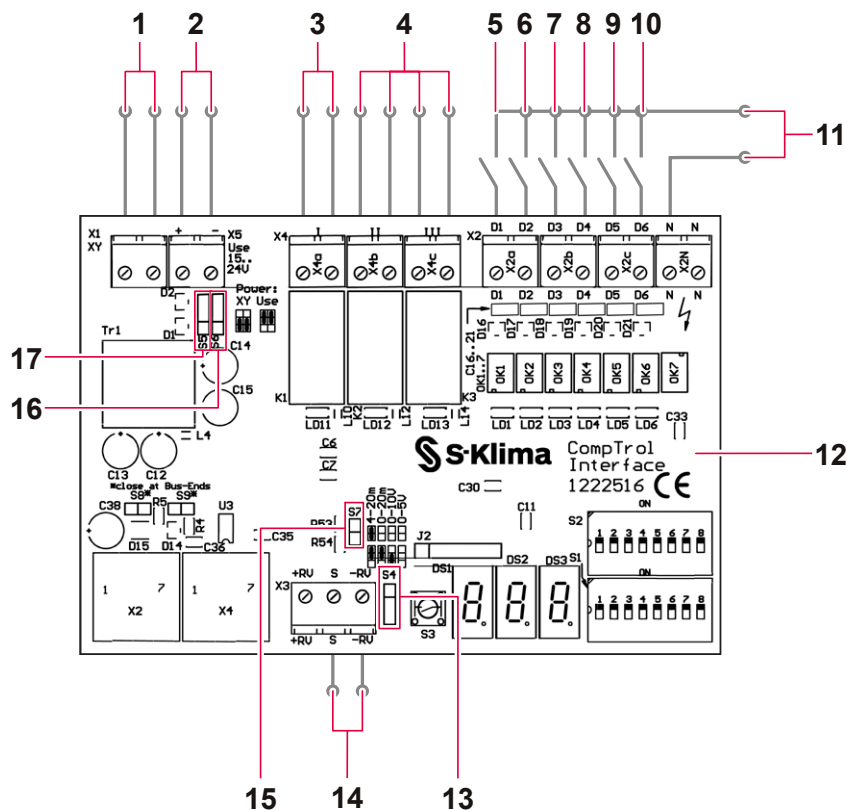

Figure 20: Connection diagram for program 10
- Make sure that the CompTrol Master is connected to an external electrical supply (24 V DC, see “Figure 20: Connection diagram for program 10” on page 88).